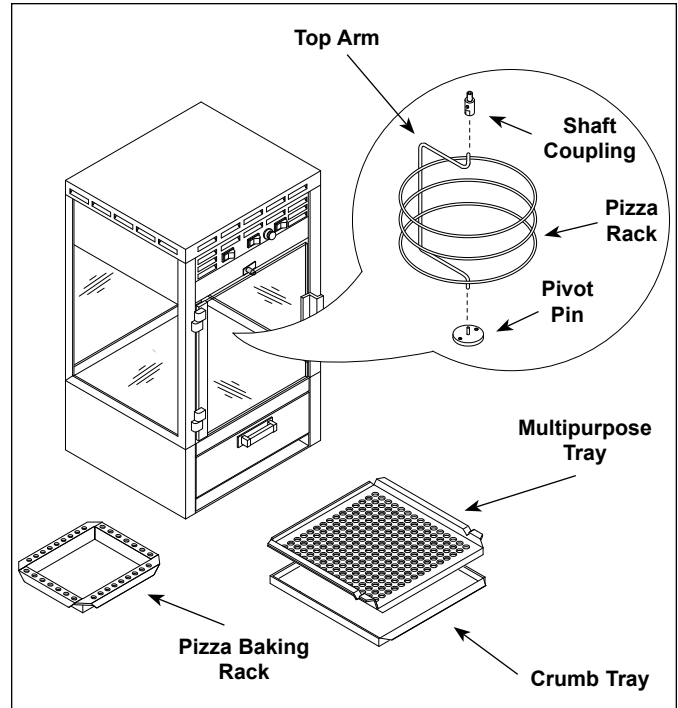

Figure 1. Pizza Station Components
3. Remove the Pizza Rack by pushing down on the Top Arm and sliding it out of the Shaft Coupling (Figure 1).
4. Remove the Multipurpose Tray, Crumb Tray, and Pizza Baking Rack (Figure 1).
7. Reinstall the Ring Rack by placing the bottom end onto the Pivot Pin and pushing down on the Top Arm while positioning it into the Shaft Coupling (Figure 1). Slowly turn the rack until it snaps into place.
2. The unit may be operated with or without water. To add some humidity to the display area, fill the Multipurpose Tray (Figure 1) with water. Refill as needed.